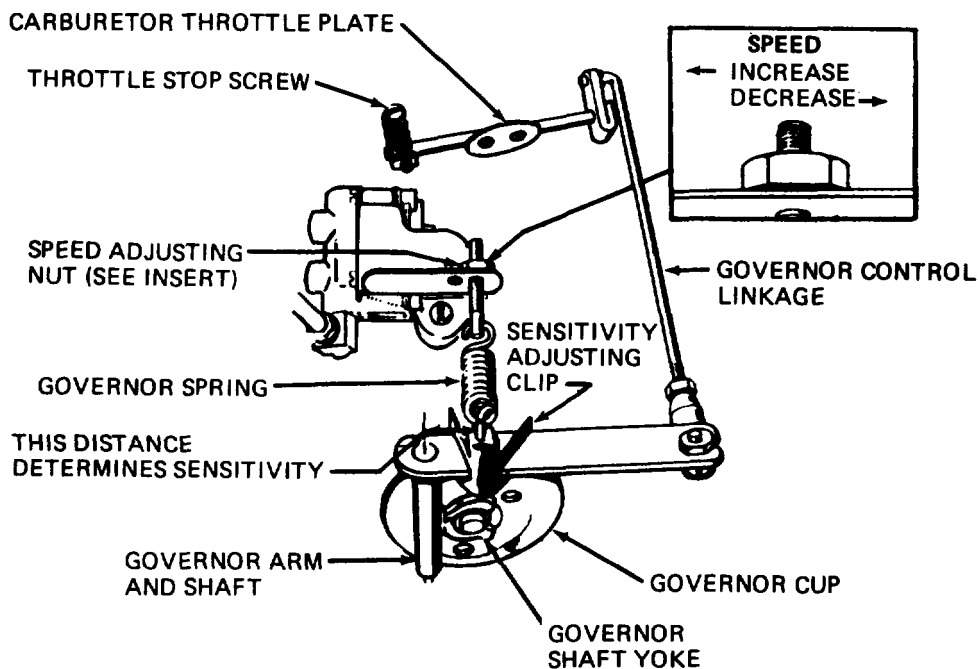

Figure 4-22. Governor Adjustment (RGMD-K/1-10)
- (4) Speed Adjustment. Adjust the governor spring tension for nominal engine speed at no load operation (fig. 4-22). The no load speed should be slightly higher than the speed under load. A reliable instrument for checking engine speed is required for accurate governor adjustment. Engine speed can be checked with a tachometer.
- (5) Sensitivity Adjustment. Check engine rpm drop between no load and full load operation. The drop must not exceed 100 rpm. To increase sensitivity shift the adjusting clip (fig. 4-22) toward the governor shaft. To decrease it, shift toward the linkage end.